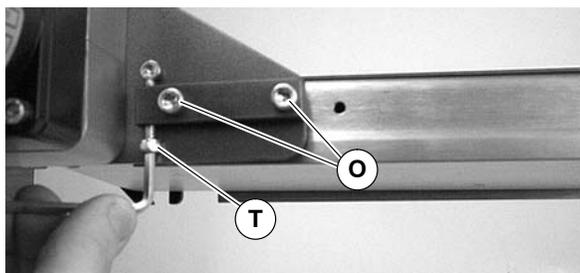
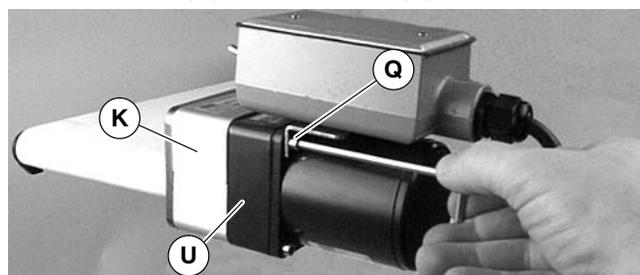

Figure 10
Figure 11
1. Loosen two (2) screws (O of Figure 10). Tighten timing belt tensioner screw (T) to 15 in-lb (1.7 Nm).
1. Loosen two (2) screws (O of Figure 10).
2. Loosen timing belt tensioner screw (T).
3. Remove four (4) screws (Q of Figure 11). Remove gearmotor (U) and top cover (K).
7. Insert top cover (K of Figure 11) into bottom cover. Mount assembly with two (2) top screws (Q). Tighten to 45 in-lb (5 Nm).
8. Tighten timing belt tensioner screw (T of Figure 10) to 15 in-lb (1.7 Nm).
9. Tighten screws (O) to 80 in-lb (9 Nm).